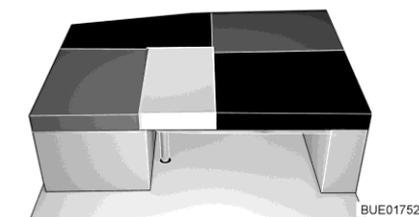

Fig. 158 After conversion
- Place the back cushion of the lateral seat/lateral bench on the table (between the seat cushion of the lateral seat/lateral bench and the additional cushion, see Fig. 158).